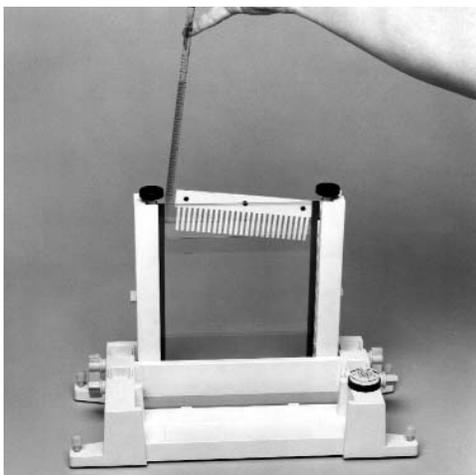

Fig. 7.5. Pouring a PTT gel.
9. Insert a comb in the gel sandwich and tilt it so the teeth are at a slight angle. This will prevent air from being trapped under the comb teeth when pouring the gel solution (Figure 7.5).